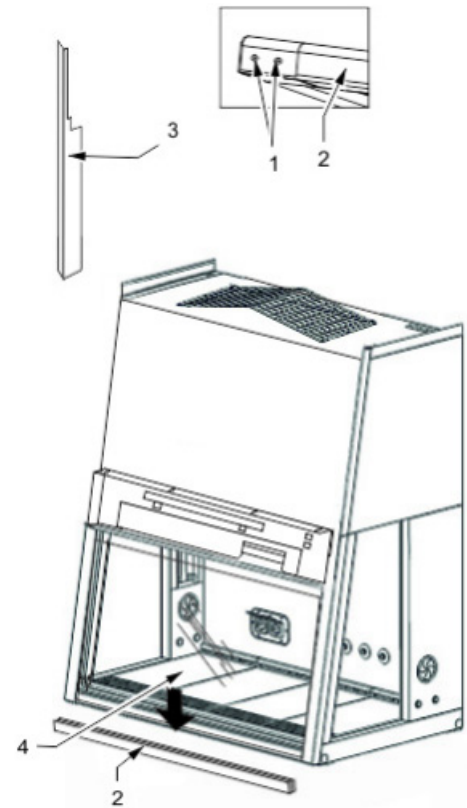

Figure 74. Remove the front window
6. **Figure 74:** Remove the front door covers [3]. The covers are secured with screws to the lower cross-member [2] at the side of the frame and at the corner [2].